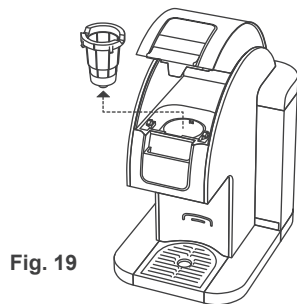

Fig. 19
1. Open the Cover, and remove the Red Cup Holder from the brewer by pulling on it. (Fig.19)